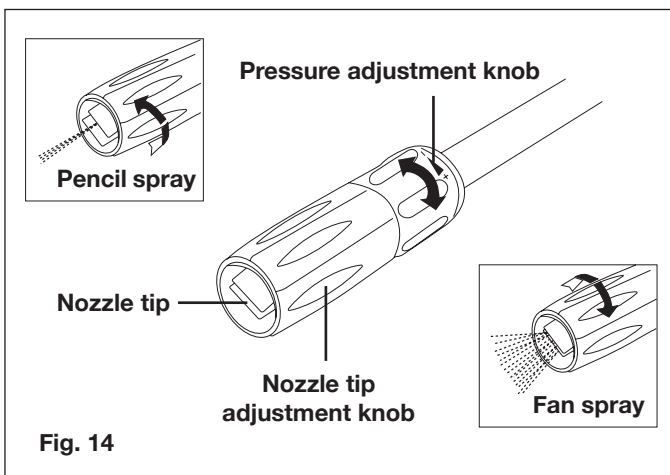

Fig. 14
2. The water pressure can be adjusted from low pressure (-) to high pressure (+) by turning the pressure adjustment knob. The nozzle tip can be adjusted from pencil spray (wide open tip) to fan spray (narrow tip) by turning the nozzle tip adjustment knob (Fig. 14).